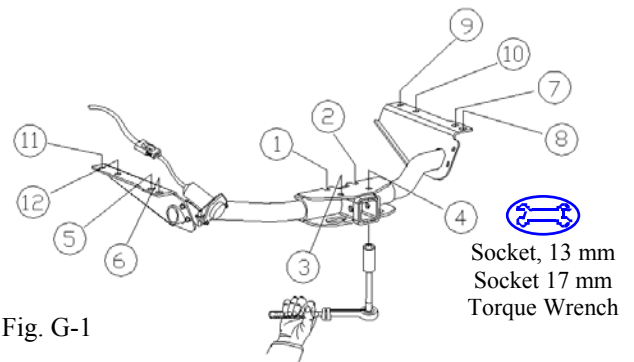

Fig. G-1
-  1. Tighten four (4) M12 bolts in the center to 60 +/- 12 lbf-ft (80 +/- 15 N-m). (Fig. G-1, 1 - 4)
-  2. Tighten four (4) M12 bolts on the frame rail to 60 +/- 12 lbf•ft (80 +/- 15 N-m). (Fig. G-1, 5 - 8).
-  3. Tighten four (4) M8 bolts to 19 +/- 4 lbf-ft (25 +/- 5 N-m). (Fig. G-1, 9 - 12)